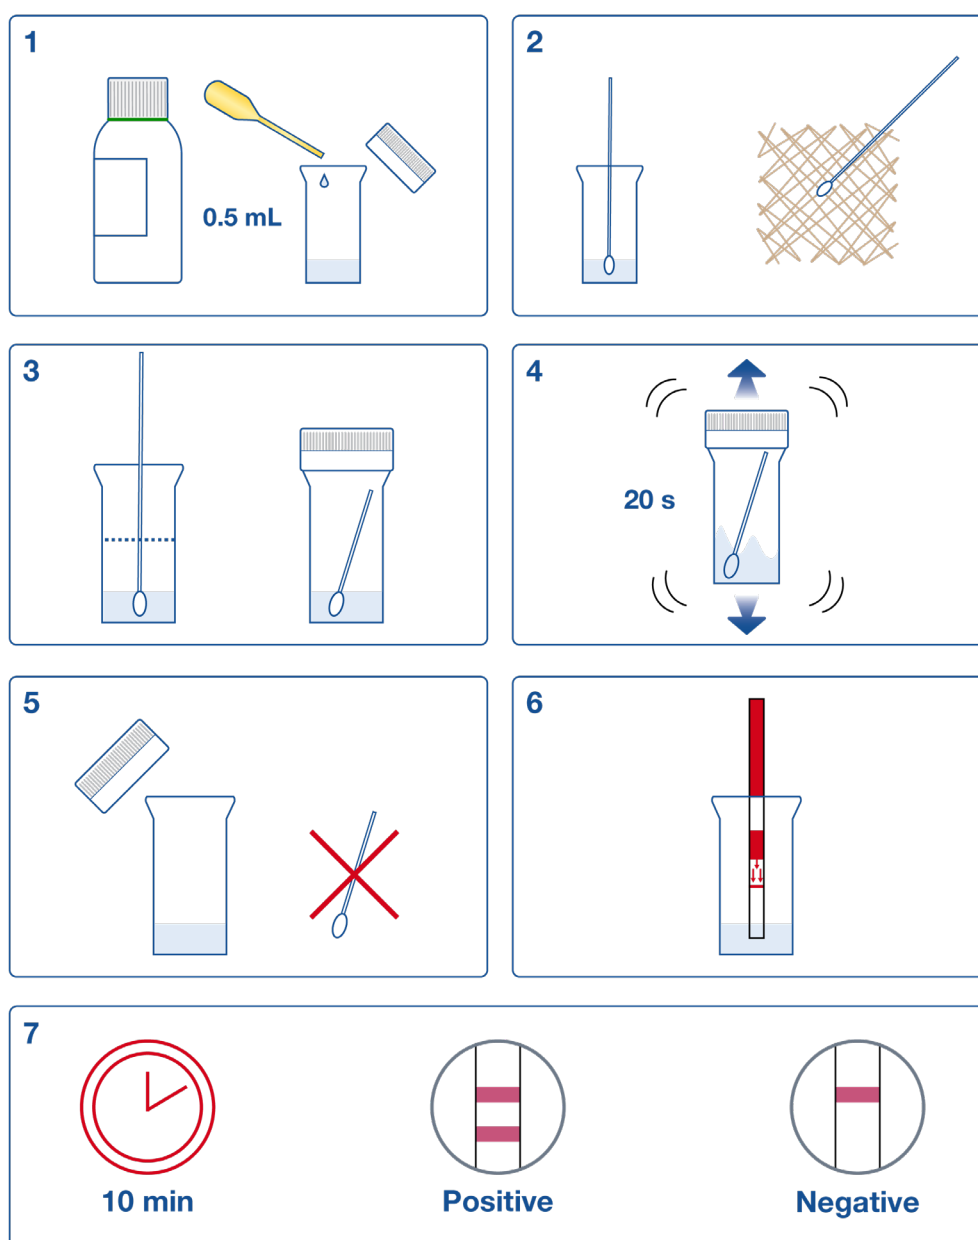

Figure 2. Test procedure for surfaces
- 9.2.** Add 0.5 mL of extraction solution to one of the provided extraction tube. Moisten the tip of the swab with the solution, press it firmly against the chosen surface and rub it in a zigzag pattern, while rolling the swab during the process (Fig. 2). The area selected for analysis must be representative of the total area of interest.